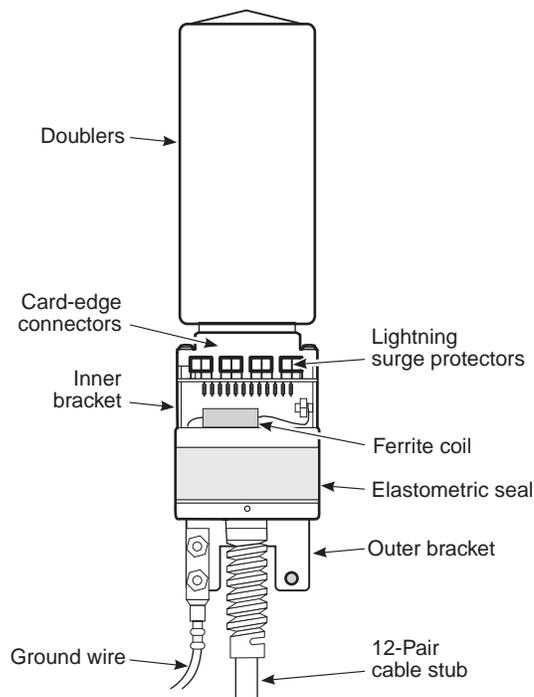

Figure 4. *Internal Mechanics*
Four compression bolts reside on the outer end plate. When properly torqued, these bolts compress a thick neoprene washer that is located between the two end plates on the enclosure, shown in Figure 4. This compression causes the washer to expand against the enclosure sides to form a waterproof barrier. The enclosure can then be installed anywhere in the network, including locations submerged in water.
Figure 4 shows a front view of the HRE-602.
- 5 Remove the desiccant packet from the installation kit. Remove the desiccant capsule from the desiccant packet and place the capsule above the ferrite coil in the inner bracket shown in Figure 4 on page 6.